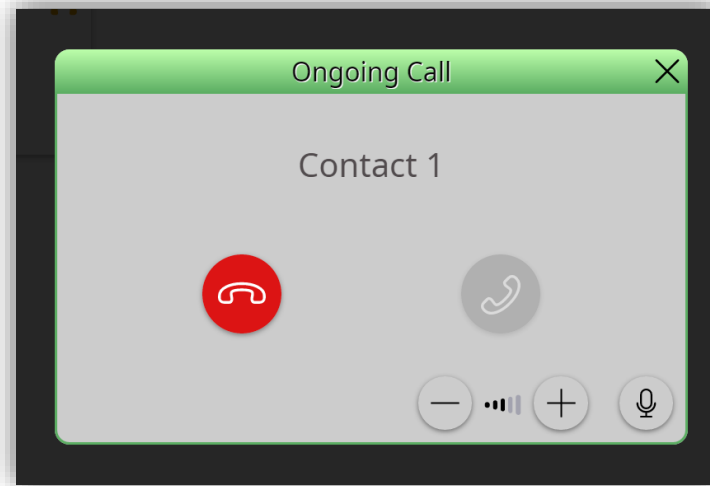

Figure 142. Ongoing call
- **Accept call:** opens ongoing call dialogue (Figure 142) initiating the audio communication.
When accepting an incoming internal call, the interface in Figure 142 will be displayed.